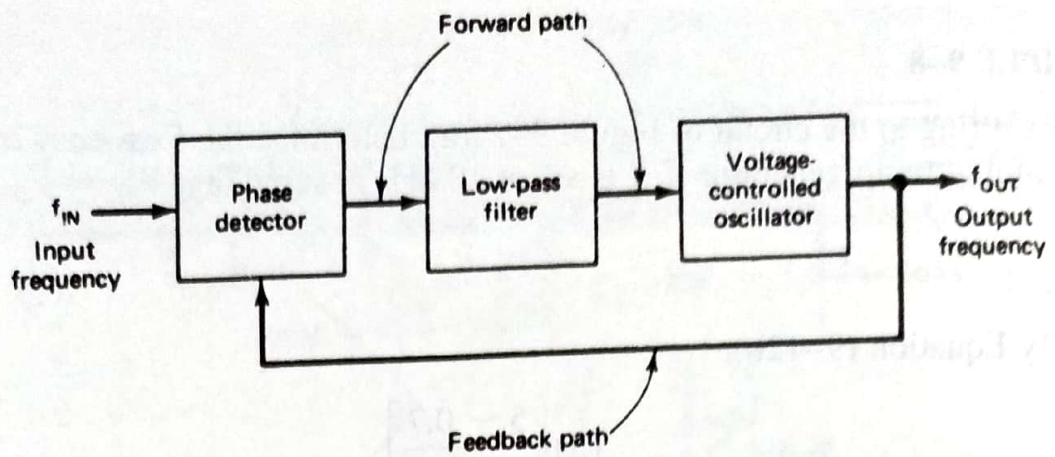

FIGURE 9-25 Block diagram of a phase-locked loop.
Figure 9-25 shows the phase-locked loop (PLL) in its basic form. As illustrated in this figure, the phase-locked loop consists of (1) a phase detector, (2) a low-pass filter, and (3) a voltage-controlled oscillator.
Before studying the specialized phase-locked-loop IC, we shall consider the discrete phase-locked loop, which may be assembled by combining a phase detector, a low-pass filter, and a voltage-controlled oscillator (see Figure 9-25).
The second block shown in the PLL block diagram of Figure 9-25 is a low-pass filter. The function of the low-pass filter is to remove the high-frequency